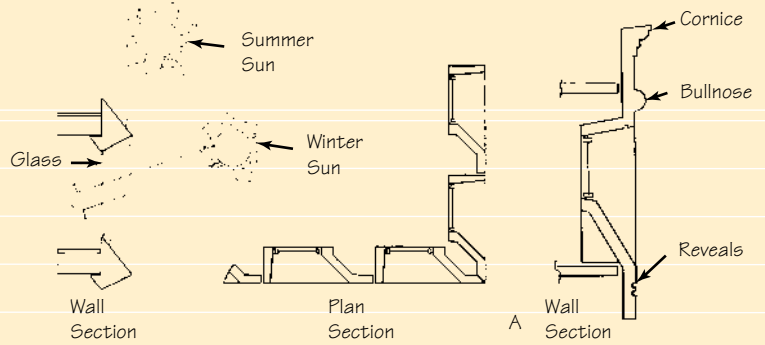

Fig. 3 Window Configurations
- They can be recessed to optimize seasonal solar heat or to reduce glare (Figs. 3, 4 & 5)